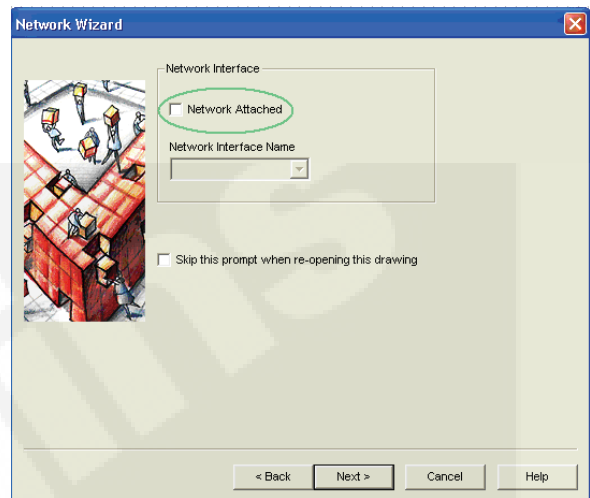

FIGURE 4-23. NETWORK ATTACHED NOT SELECTED
9. When the box shown in Figure 4-23 appears, make sure that **Network Attached** is un-